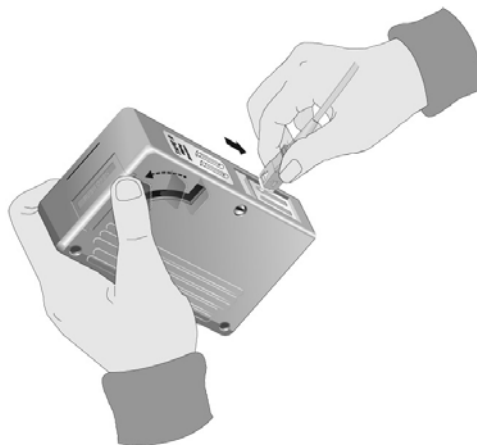

Figure 36. Rubbing the Ferrule Tip on the Cleaning Surface
7. With one hand, hold the cartridge cleaner and push the lever on the cleaning cartridge in the direction of the arrow to expose the cleaning surface, as shown in Figure 36.
8. Place the ferrule tip on the exposed cleaning surface and rub the ferrule in a downward direction, as shown in Figure 36.
- I. Insert the swab into the adapter as shown in Figure 36 and rub the ferrule tip with the swab.